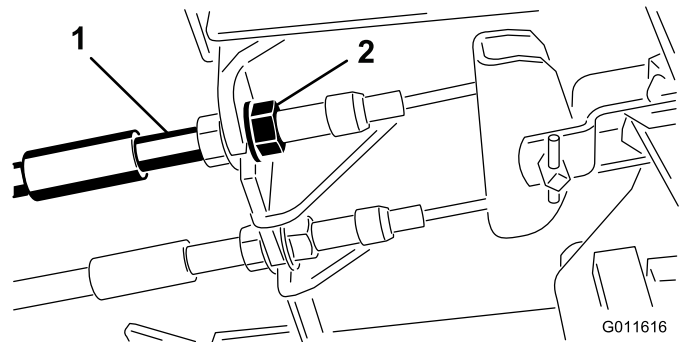

Figure 67
1. To reduce free travel of the brake pedals, tighten the brakes by loosening the front nut on the threaded end of the brake cable (Figure 67).